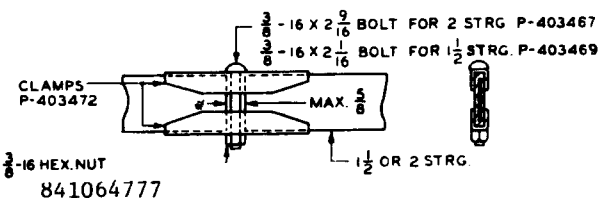

FIG. 2 STRAIGHT CLAMP FOR STRINGERS OF SAME WIDTH (PARS. 2.1, 4.1, 4.4)
BSP 800-614-157 - FIGURES 2 THROUGH 30
1.11 This section covers methods and requirements for the fabrication of cable rack and BSP 800-614-157, Figures 2 through 30.
2.1 Clamping details commonly used on bar - and ladder - type cable rack are shown in Figures 2 through 12 inclusive.
(BSP 800-614-157 FIG. 2)